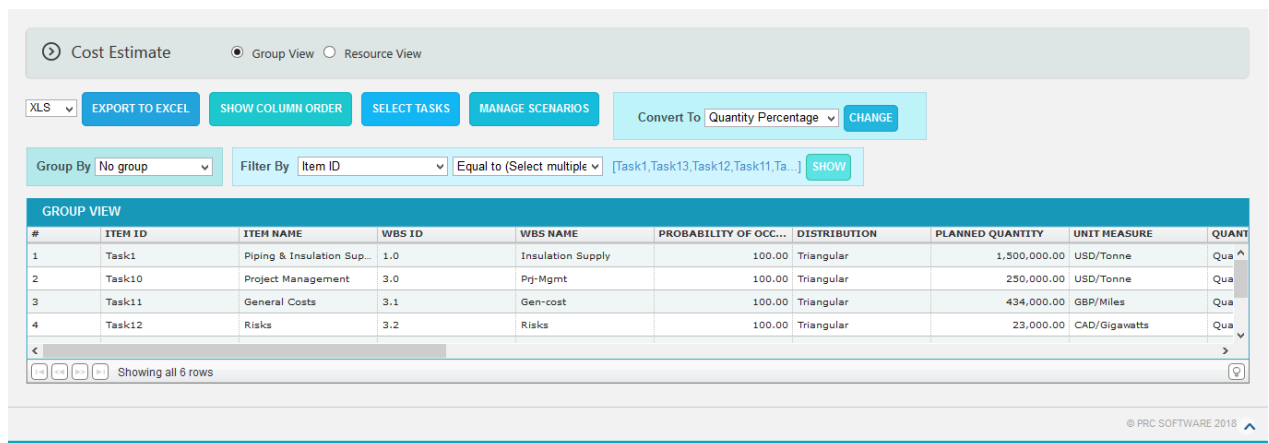
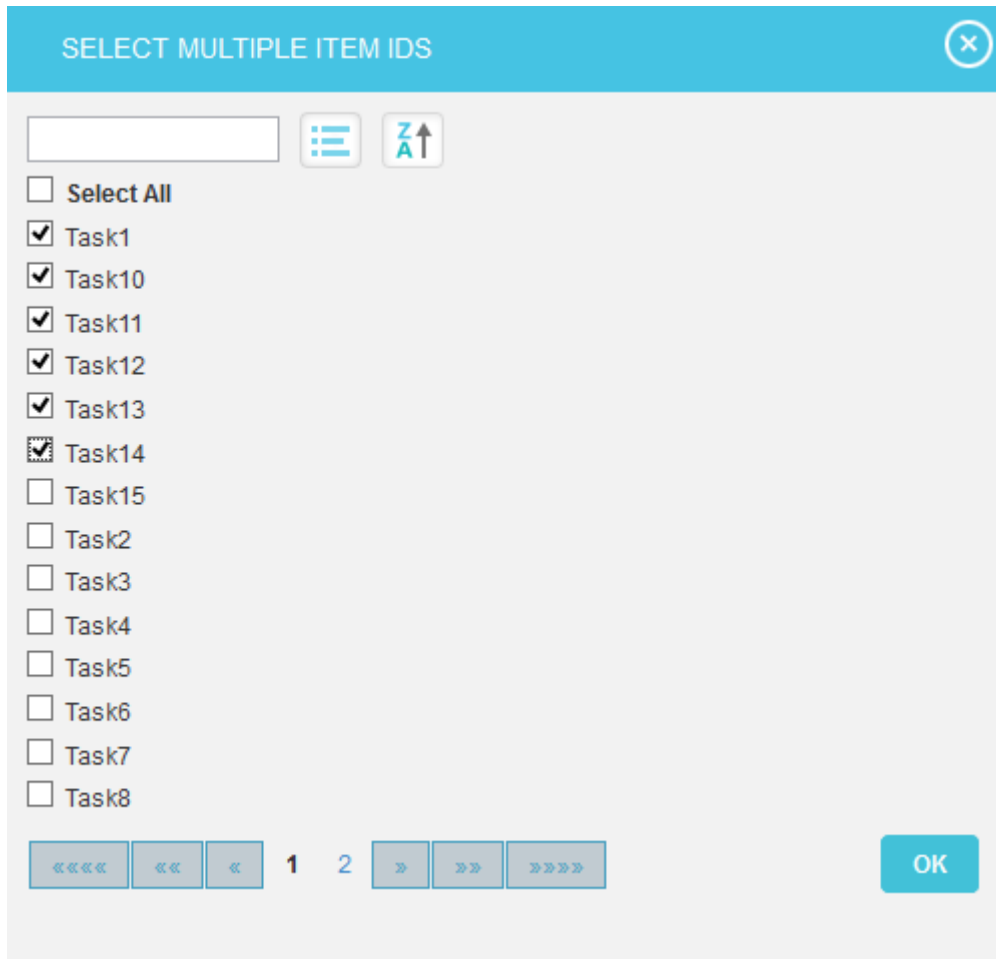

Figure 2.16
Figure 2.17
3. Enter the value in the **textbox** provided based on which filtering is to be done. (Figure 2.16) While giving conditions with select multiple option to filter, a pop up appears (Figure 2.17) where the multiple tasks can be selected.
4. Click the **SHOW** button (Figure 2.16). The filtered data will be displayed.